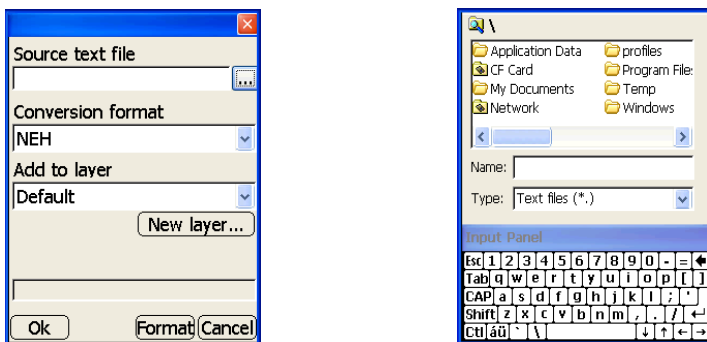

Figure 3-13. Navigate to and Select Text File
- To import a desired Points file, press **Data ▶ Points ▶ Import/Export ▶ From text file**. On the *import* dialog box, press the **browse** (“...”) button to navigate to and select a source text file (Figure 3-13).
- On the *file explorer* dialog box, select the text file to import from the appropriate directory and press **Ok** (Figure 3-13).